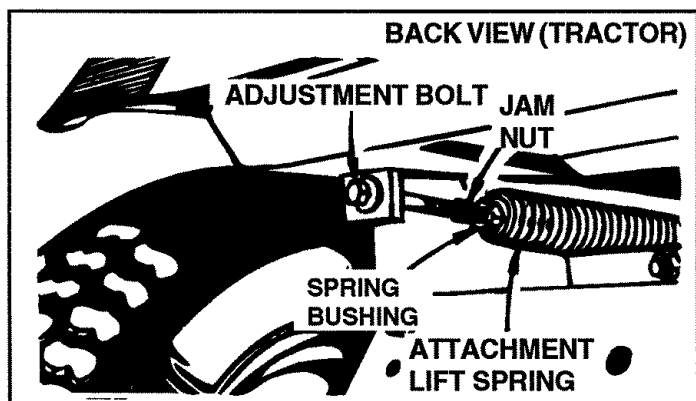

FIGURE 18
16. If your tractor does not have an attachment lift spring, skip to next paragraph. Relieve spring tension on lift lever (see figure 18 and note below) loosening hex jam nut and unscrewing adjustment bolt counter-clockwise to obtain 1/4" clearance between bracket and adjustment bolt.